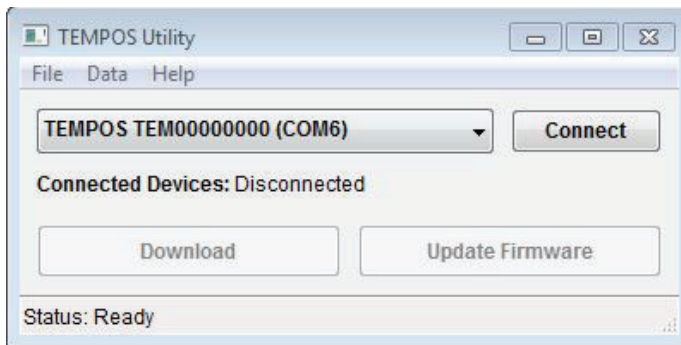

Figure 20 TEMPOS Utility downloader
Once the downloader is installed, TEMPOS Utility will open a new window (Figure 20). The software can now be used to download data from TEMPOS.
2. Once connected, the controller serial number will appear in the TEMPOS Utility dropdown (Figure 20).
5. Press Download to download the data stored on the controller (Figure 20).
5. Click the Update Firmware button in the TEMPOS Utility screen (Figure 20).